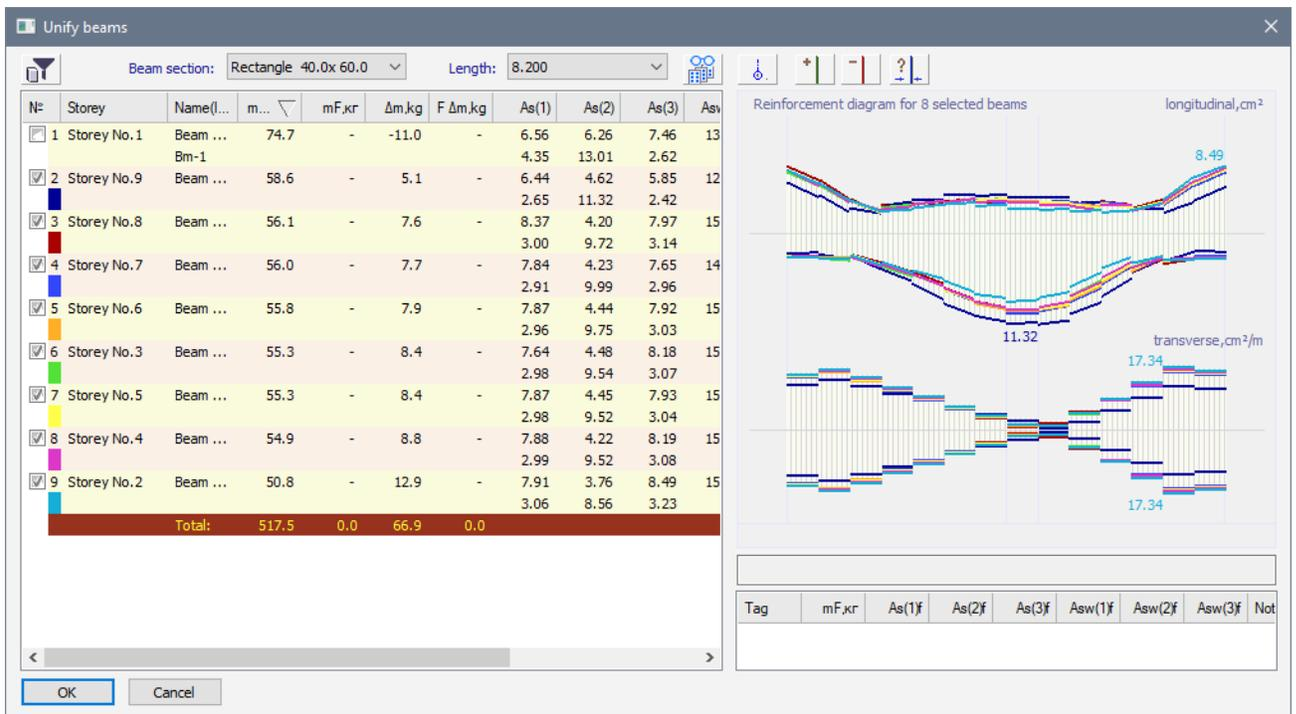

Figure 27.28. **Unify beams** dialog box
- ⇒ Select the check boxes for beams from the 2nd up to 9th (see Fig. 27.28) and create the tag **Bm-2** in the above-mentioned way.